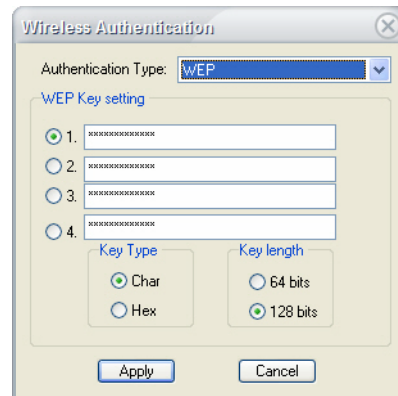

Figure 16-3:Configuring Sensor WEP Settings
- 2) Select WEP from the drop-down box, and the WEP screen appears. See Figure 16-3.